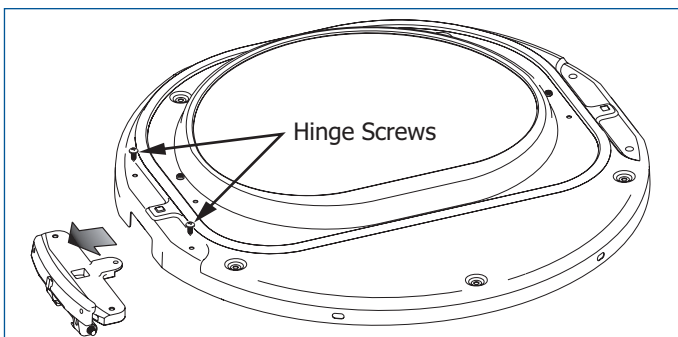

Figure 2-22.
3. Turn the inner door assembly back over and locate the 2 pan head hinge screws. Remove and save the 2 screws and separate the hinge from inner door assembly. (See Figure 2-22)